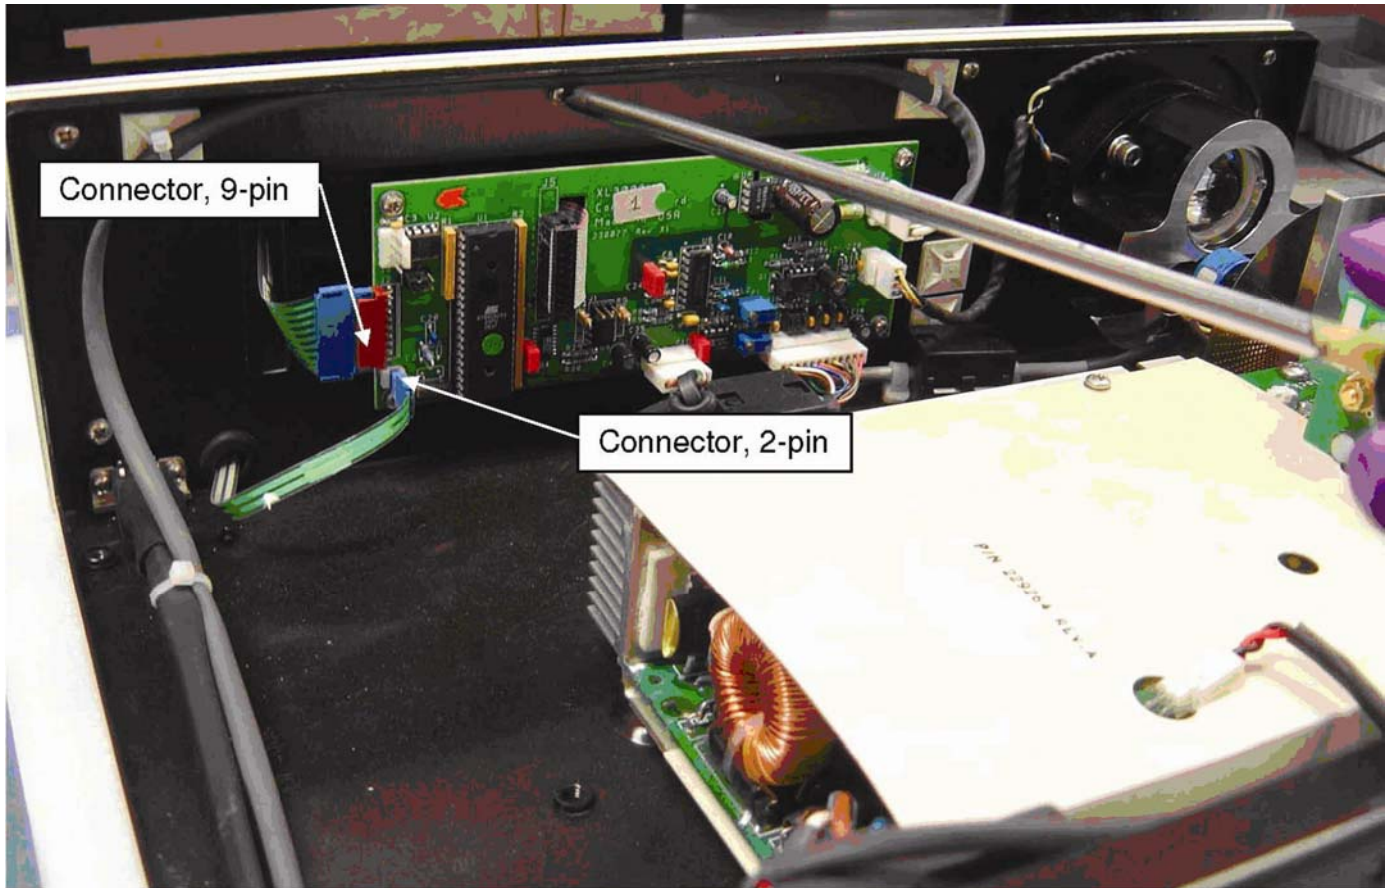

Figure 13
1. Remove the six 6-32 screws securing the front panel to the base – Fig. 13.